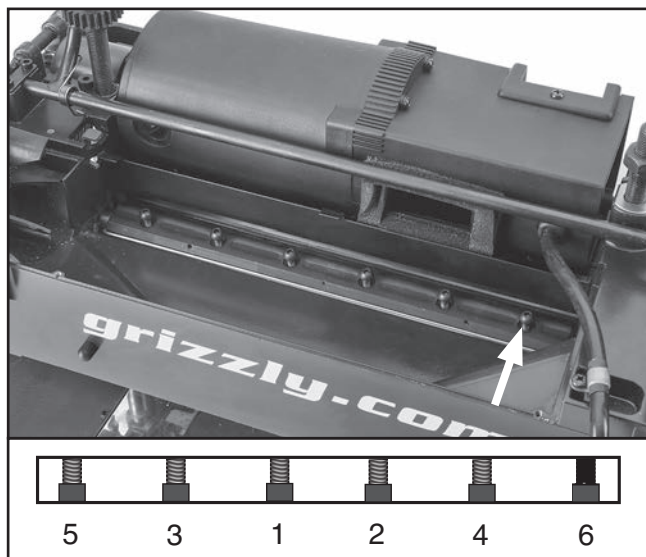

Figure 25. Gib screw tightening sequence.
3. Install gib over knife, and slightly tighten gib screws, starting at middle and working your way to ends by alternating left and right, as shown in **Figure 25**.